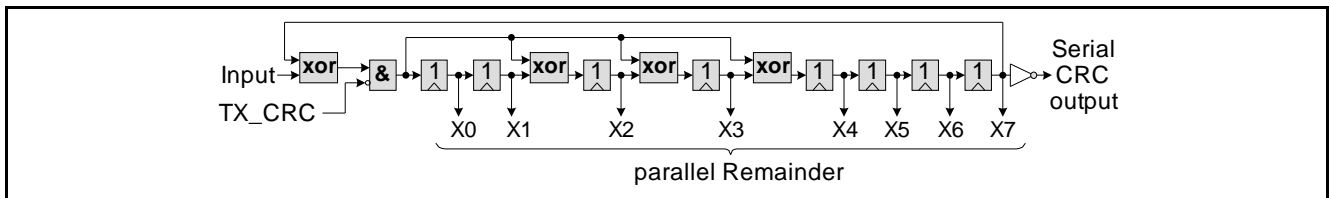

Figure 16 Fast CRC Polynomial Division Circuit
- Generator Polynomial: $X^8+X^4+X^3+X^2+1$, the fast CRC generation circuit, is used for CRC generation. (See **Figure 16**)
Figure 16 shows the fast CRC Polynomial.